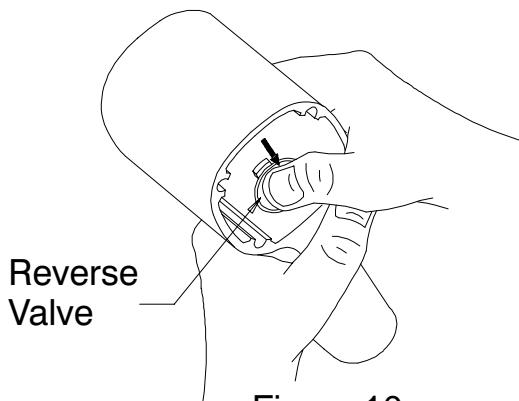

Figure 10
2. Insert thumb into the front of the Housing and push **down** on the Reverse Valve so that it can be removed through the bottom of the handle. See Figure 10.